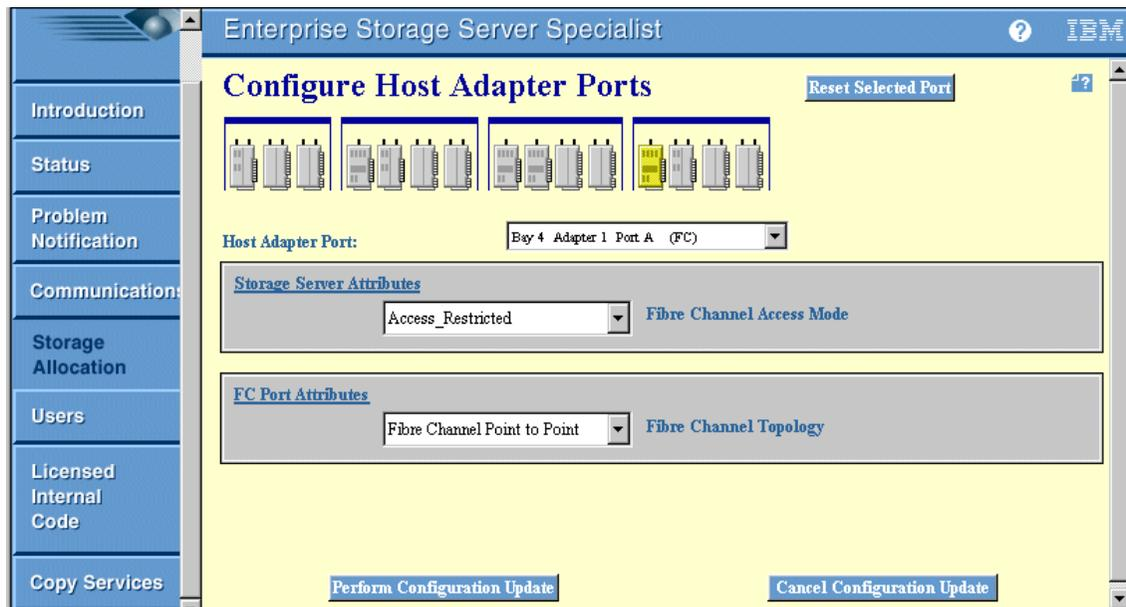

Figure 14. Window for configuring host adapter ports
5. Select the Fibre Channel card which you want to set the topology by clicking on the adapter icon, or by using the pull-down arrow on the Host Adapter Port (Figure 14).
Notice that there is also the *Storage Server Attributes* field (see Figure 14 on page 26). This relates to how the ESS allows host access to its volumes through all its FC interfaces. There are two kinds of Fibre Channel Access Mode. They are: